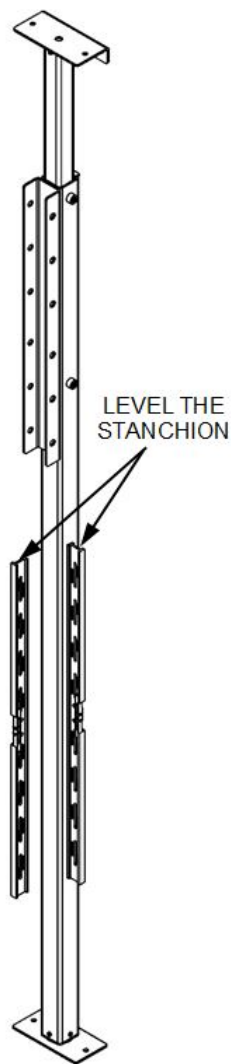

FIG. 2.3
- 2.1.5 Using a 3' or 4' level, or equivalent, ensure Stanchion is level and plumb (FIG. 2.3).